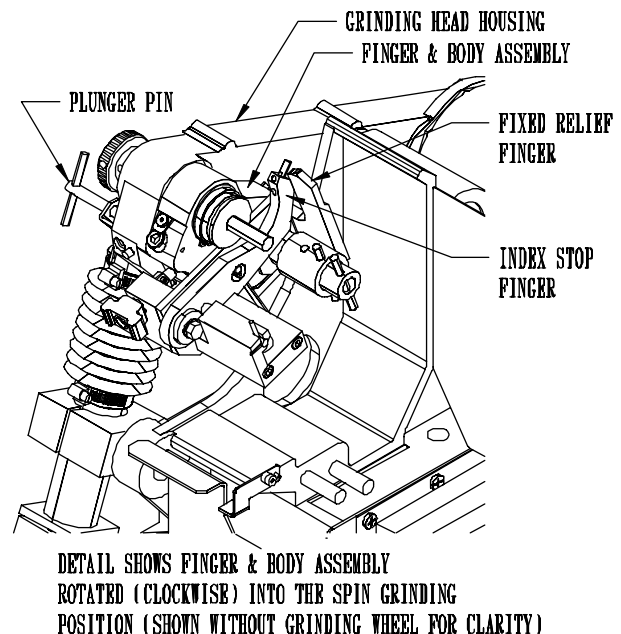
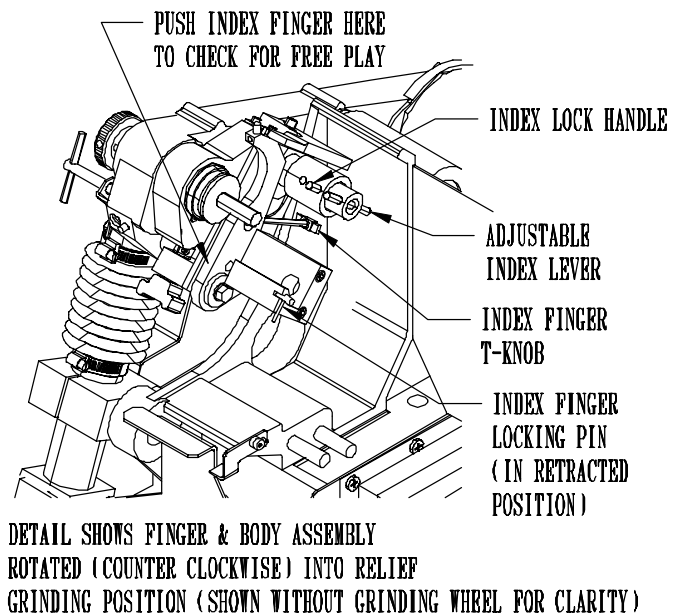

FIG. 5
FIG. 6
The Finger and Body Assembly of the grinding head rotates on the Grinding Head Housing to change positions between spin grinding and relief grinding. To change the position of the finger and Body Assembly you have to pull out the Plunger Pin on the left side of the Grinding Head Housing. See FIG. 5. When you are going to perform spin grinding operations the Finger and Body Assembly must be rotated clockwise (looking at it from the right). This rotates the fingers out of the reel blade path. See FIG. 5 When you are going to perform relief grinding operations the Finger and Body Assembly must be rotated counter clockwise. This rotates the finger into position to touch and control the reel blades. See FIG. 6
The Finger and Body Assembly includes two fingers. See FIG. 5. The Fixed Relief Finger is equivalent to the Relief Fingers on other relief grinders. When relief grinding the Movable Index Stop Finger moves from the Relief Finger Side (back side) of the reel blade when traversing from right to left to the grinding wheel side (front side) of the reel blade when traversing from left to right. This feature allows the fully Automatic Relief function. When performing relief grinding operations it is important to have the Index Stop Finger adjusted properly.
STEP 1: Once you have the Grinding Head positioned with a reel blade resting on the Fixed Relief Finger high point, you want about 1/32" [.8mm) to 1/16" [1.5mm] free play of the Index Finger behind the reel blade. The Index Finger is spring loaded to the up position. To check free play, push down on the Index Finger. See FIG. 6. To make this adjustment you have to first turn the Index Lock Handle counter clockwise to unlock the adjustable Index Lever. See FIG. 6 If there is no free play of the Index Finger you want to rotate the Adjustable Index Lever clockwise. If there is more than 1/16" [1.5 mm] free play you want to rotate the Adjustable Index Lever counterclockwise. When the Index Finger is in proper position rotate the Index Lock Handle clockwise to lock the Adjustable Index Lever.
The up travel limit is restricted to keep the Index Finger in the reel blade index path. This is done to properly catch the next blade when indexing or to allow clearance between the back side of the Index Finger and the front side of the blade when the grinding carriage is making its return trip to the home position. If the Index Finger has problems catching the next blade turn the Index Finger T-knob counterclockwise. If there isn't enough clearance between the back side of the Index Finger and the front side of the reel blade turn the Index Finger T-Knob clockwise. See FIG. 6. Adjust the T-knob in by 1/8" (3mm) into the hole opening so the up travel is restricted. Check the up and down swing of the Index Finger for clearance on both sides of the reel blade for the relief grind.